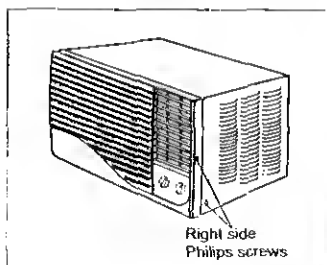

Fig 5
A Remove total of 4 Philips screws securing the chassis to the cabinet. There are (2) screws on each side. The set of screws closest to the front of the unit secure the front panel to the cabinet. The set of screws closest to the rear of the unit secure the cabinet to the chassis (Fig 5)
C Grasp the pull handle at the front of the slide-out chassis and carefully slide the air conditioner out of the cabinet (Fig 5)